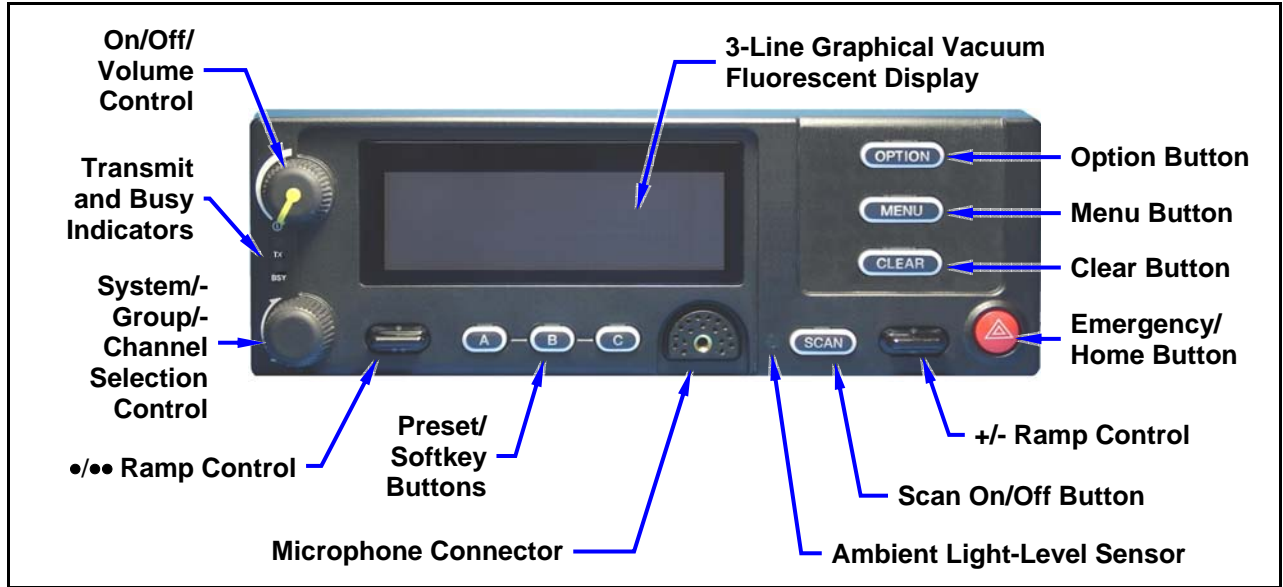
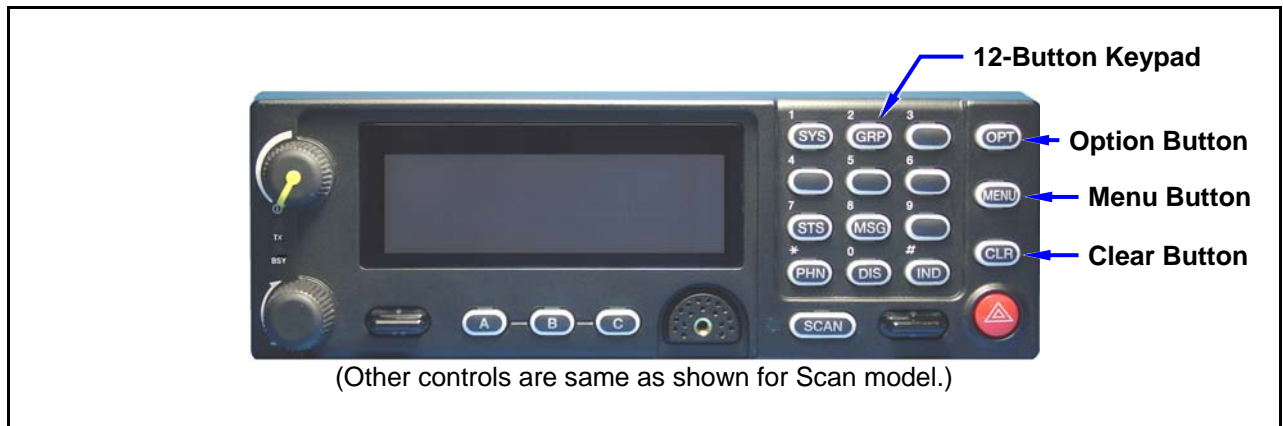

Figure 8-4: CH-721 Scan Model Control Head Front Panel
Figure 8-5: CH-721 System Model Control Head Front Panel
The remote-mount M7300 mobile radio must be connected to a control head to provide the operator-to-radio interface. Two different control heads are available — the CH-721 Scan model and the CH-721 System model. See Figure 8-4 and Figure 8-5 respectively. The CH-721 Scan model control head features three (3) large menu selection buttons. The System model control head has a 12-button keypad to allow advanced operations without the need of a DTMF-capable microphone.